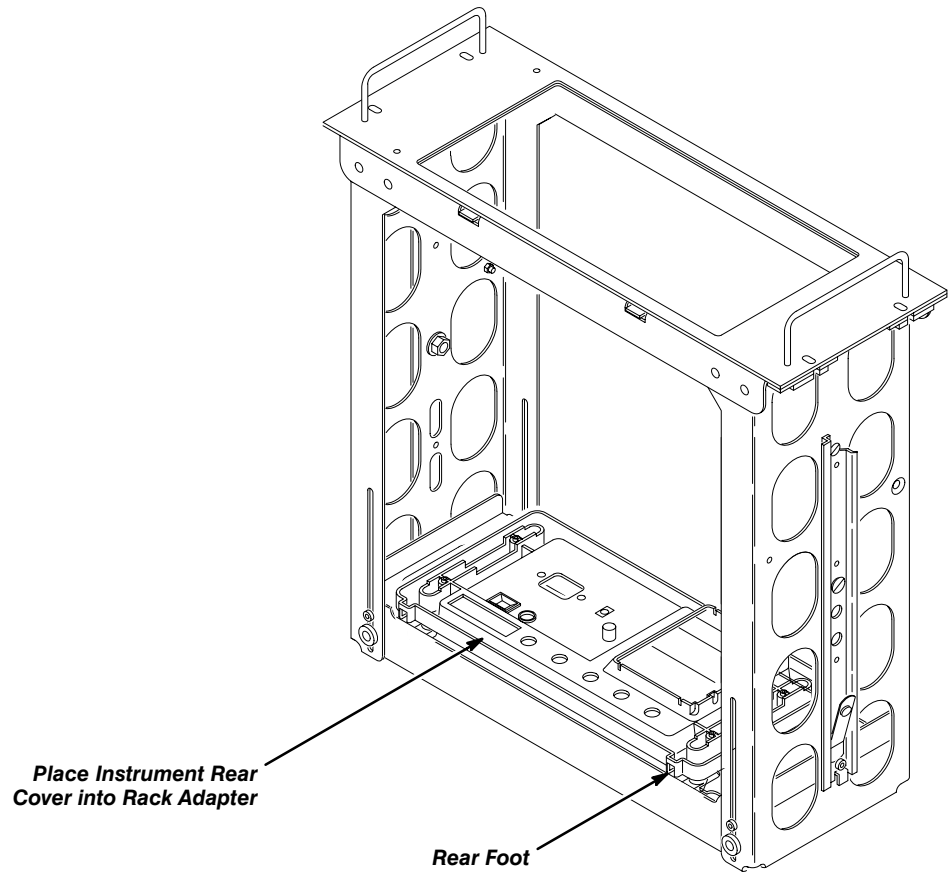

Figure 8: Insert the Rear Cover
- e. Place the instrument rear cover on the rack adapter rear support, ensuring that the feet are facing the bottom of the rack adapter. See Figure 8.